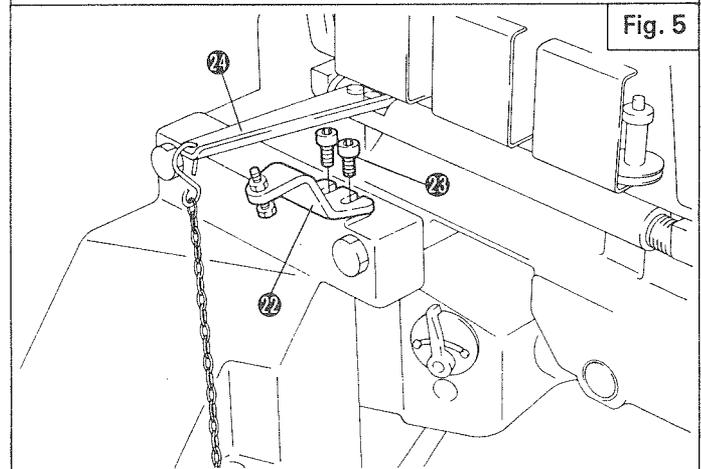

Fig. 5
5. Refer to Fig. 5 and attach Bracket ㉒ with Screws ㉓.